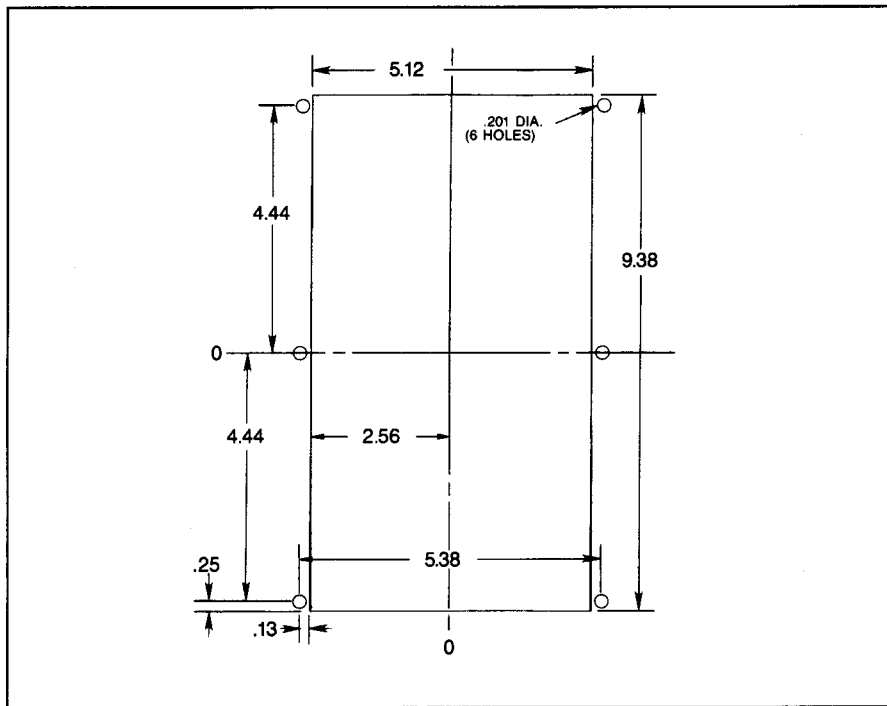

Figure 4.1 Chassis Cutout Dimensions
4.1.1 Cutout, Clearances — Since the IQ Data Plus II is typically mounted on a cabinet's door, it is necessary to prepare a cutout in which it will be placed. The dimensions for this cutout, along with the location of 6 mounting holes, are shown in Figure 4.1. Before actually cutting the panel, be sure that the required 3-dimensional clearances for the IQ Data Plus II chassis allow mounting in the desired location. (Clearances are shown in Figure 2.2.)